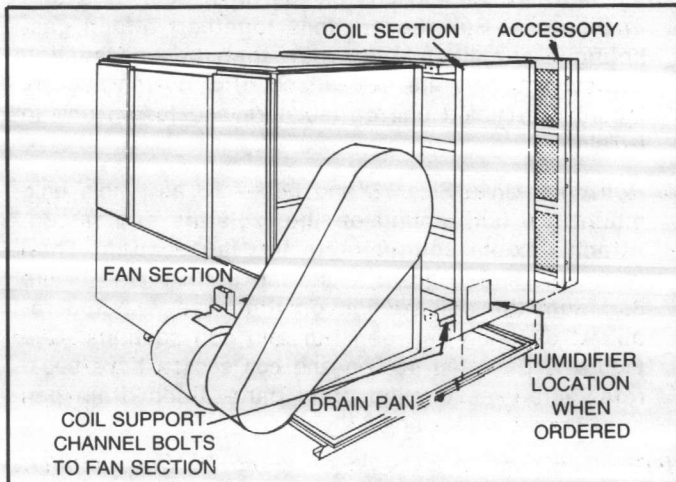

FIGURE 5 - Exploded View of the Horizontal Draw-Thru Unit Size 63
3. Horizontal Units Size 63 — To assemble multi-section horizontal units, remove the drain pan from the coil section discharge flange and set in place. Then set the fan and coil sections on the drain pan, as shown in Figure 5. Bolt the sections together, attach gasketing if supplied. Make sure that the coil section support channels are also attached to the fan section. Mount assembled unit on isolators and fasten unit to isolators.